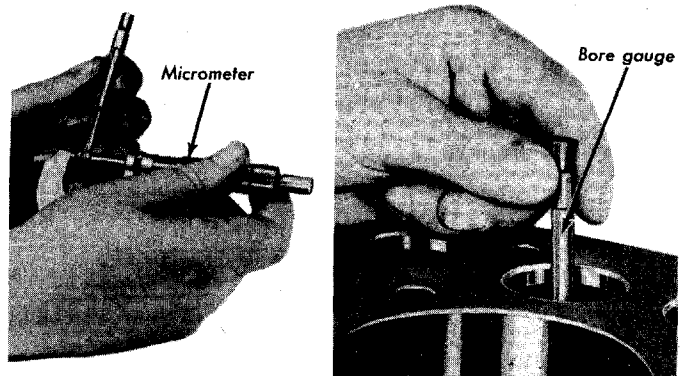

Fig. 30—Checking Valve Guide Wear
(6) **VALVE GUIDE INSPECTION.** Valve stem clearance in the guide should not exceed 0.0031 inch. Figure 30 illustrates the method of measuring valve guide wear